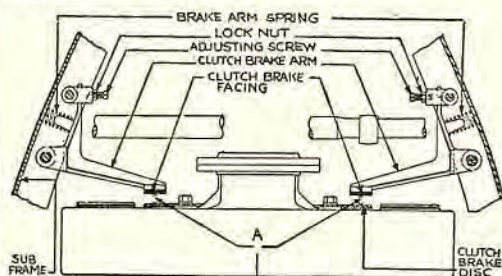

Fig. 10. Clutch brake as used on the Studebaker series "20" cars.
The clutch brake, as used on the Studebaker series "20" cars, is shown in Fig. 10. There are two arms, one on each side of the clutch, so arranged as to make the adjusting screws accessible after removing the floor board. The double construction equalizes the pressure on the clutch cone, and prevents any tendency for it to bind on the shaft.
Cars when shipped are so adjusted as to give the best results. When a car has been driven 500 miles, the clutch-cone facing will become slightly compressed, allowing the cone to enter the flywheel farther, which, together with a slight wear of the clutch-brake facing, will increase the gap at (A) (Fig. 10). It will then be necessary to screw out on the adjusting screw, decreasing the gap (A) to $5/16''$, taking care to adjust both sides alike.